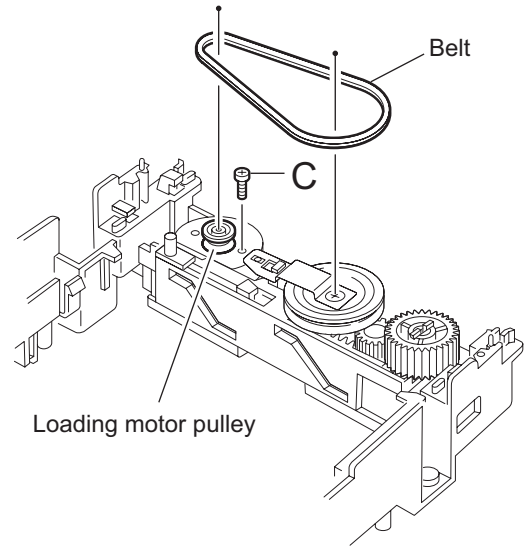

Fig.9
2.3.6 Removing the motor assembly (See Fig.9, 10)